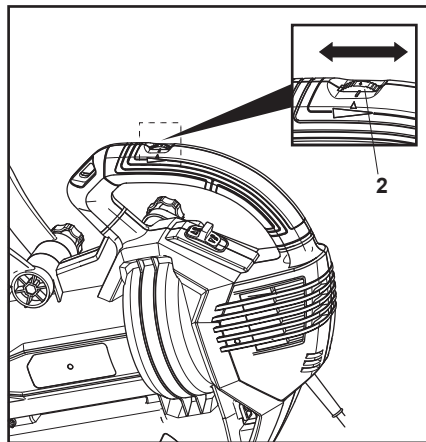

Fig. 10
1. Turn the speed dial (2) to a higher number to increase the maximum speed (Fig. 10).
2. Turn the speed dial (2) to a lower number to decrease the maximum speed.